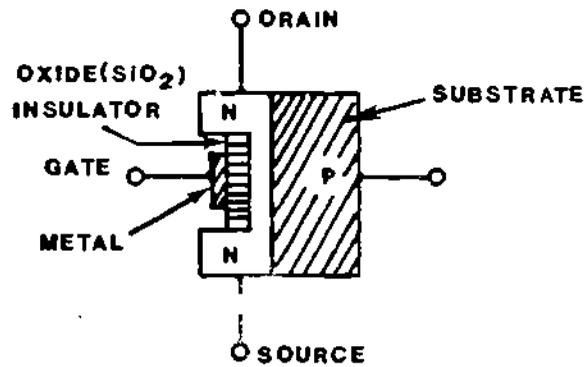

Figure 16
17. Some of the important design features of MOSFETs now will be discussed. Figure 16 shows an illustration of the components in a typical N-channel MOSFET.